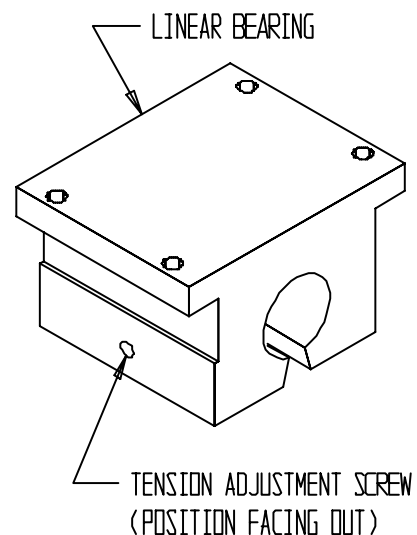

FIG. 14
**STEP 3**--Insert a new linear bearing onto the end of the carriage shaft with the tension adjustment screw pointing outward. See FIG. 14. Adjust the tension screw of the linear bearing so when you radially rotate the linear bearing around the carriage shaft there should be no free play between the linear bearing and the carriage shaft.